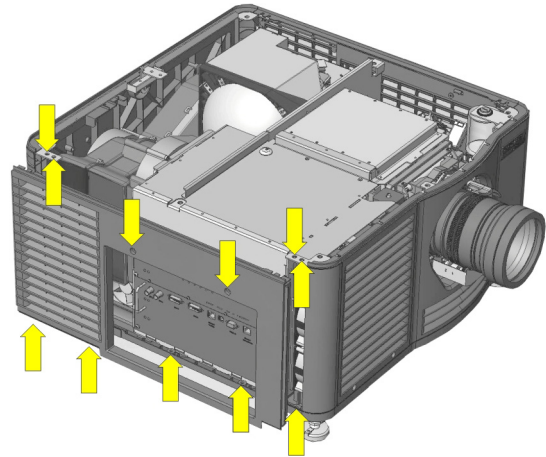

Figure 5-7 Remove Cardcage Panel
5. Remove the five socket head cap screws along the bottom edge of the skin (**Figure 5-7**).